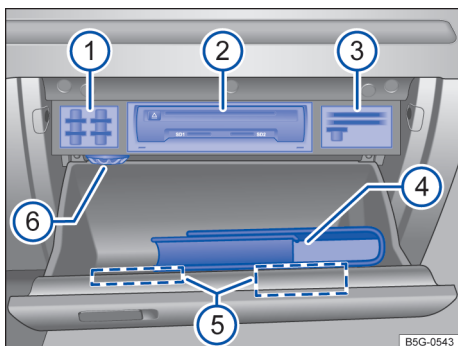

Fig. 128 Inside the glove compartment.
Key to fig. 128:
Vehicles equipped with an Infotainment system may have a CD player, SD card readers, or other Infotainment system accessories → fig. 128 ② in the glove compartment. See → *Infotainment System* for further information.
If the vehicle is not equipped with an Infotainment system, there is a slot for the Owner's Manual in the upper part of the glove compartment. Always keep the Owner's Manual in this slot or in the glove compartment as shown in → fig. 128 ④.
Depending on vehicle equipment, there may be holders for SD cards → fig. 128 ①, other types of cards ③, and a coin holder in the upper part of the glove compartment.
Depending on vehicle equipment, there may be an air vent → fig. 128 ⑥ in the glove compartment. Cool air can be directed into the glove compartment if the air conditioner is on. Open or close the air vent by turning it.